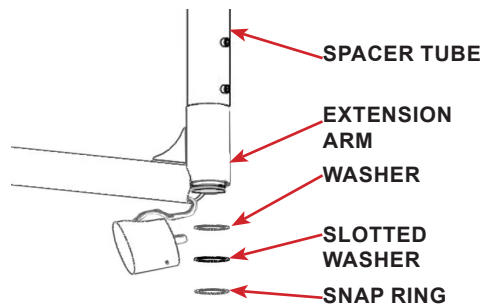

FIGURE 2.26 - Arm Installation
STEP 4: Slide the extension arm onto the post, secure with the washers and snap retaining ring. (Snap ring pliers provided in hardware package) Refer to FIGURE 2.26